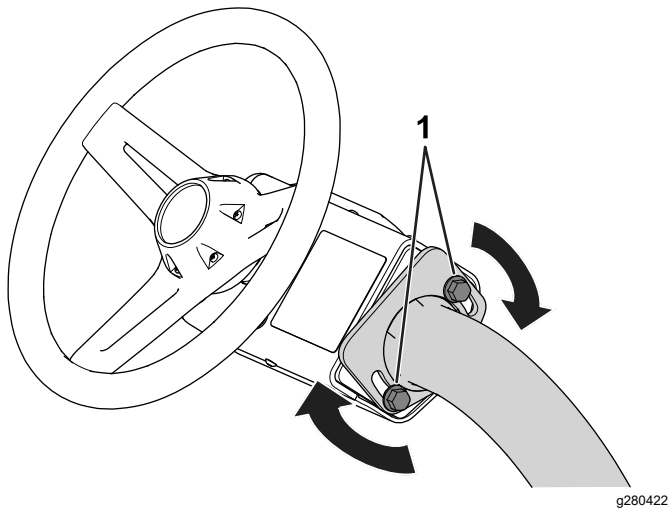

Figure 26
1. Loosen the bolts (Figure 26) that secure the steering-wheel assembly to the steering arm.
3. Tighten the bolts (Figure 26) to secure the steering-wheel assembly in your adjusted position.